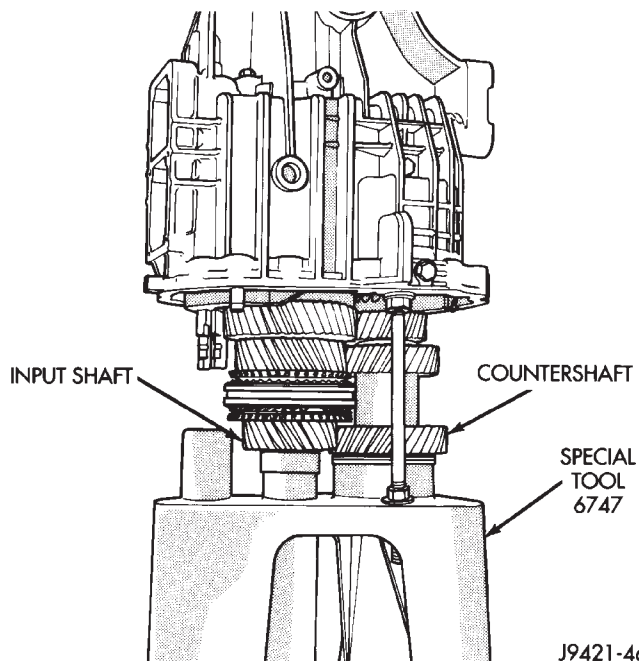

Fig. 28 Geartrain And Housing Mounted On Fixture Tool
- (d) Stand geartrain and rear housing upright on fixture (Fig. 28). Have helper hold fixture tool in place while housing and geartrain is being rotated into upright position.